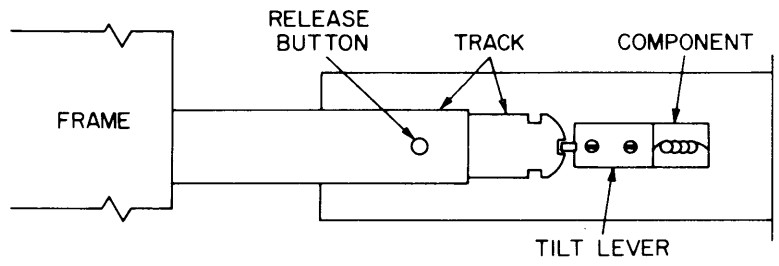
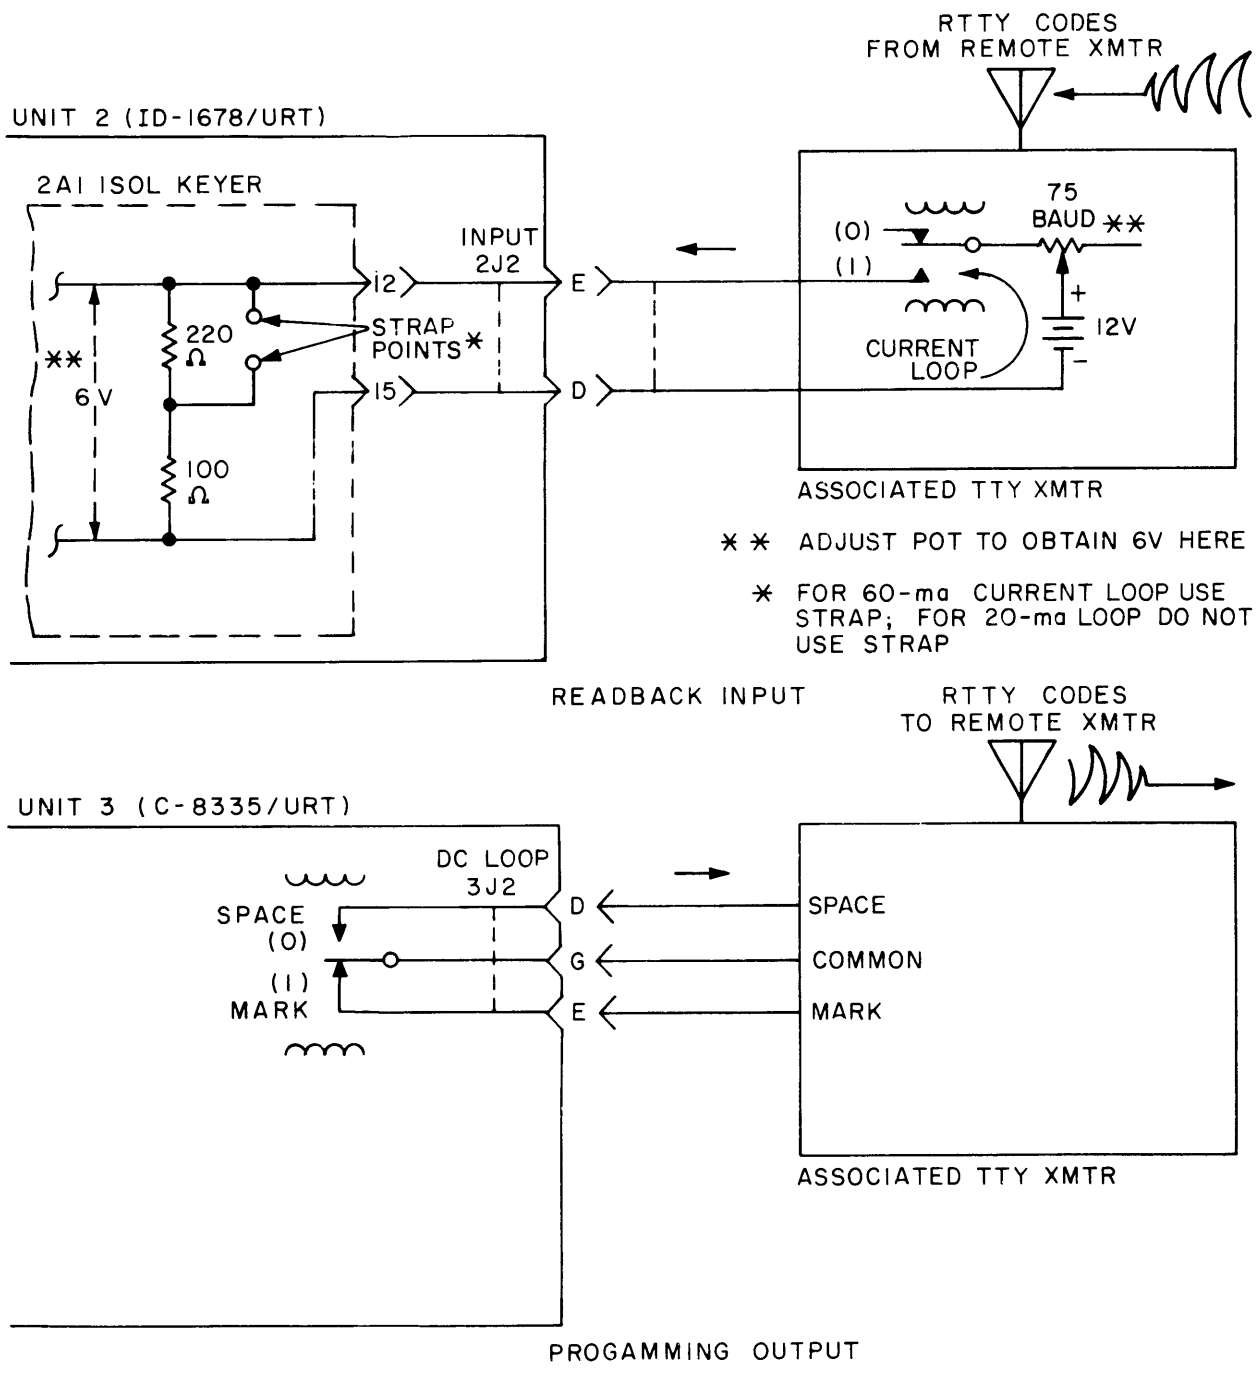

Figure 2-3. Slide Mount Details
Figure 2-4. External Wiring Connections
a. ASSEMBLY OF CONSOLE. Install modular units and blank panels into the console as shown in figure 1-1. Connect modular unit power supply inputs to ac power strip console as shown in figure 5-1. Modular units ID-1678/URT and C-8335/URT are slide-mounted on tilt-lock drawer slides. The external part of the slide mount arrives pre-installed in the cabinet; the internal part arrives pre-installed on the modular unit. To install a unit, refer to figure 2-3 and proceed as follows:
- (1) Pull the center section of the cabinet-mounted (external) portion of the slide-mount out until it locks in an extended position.
- (2) Position the unit-mounted (internal) portion of the slide mount in the tracks of the external portion and ease the modular unit into the cabinet until the release buttons engage the holes in the track.
- (3) Depress the release buttons and slide the modular unit completely into the rack.
- (4) Secure the modular unit front panel to the rack flange with machine screws and fiber washers supplied in shipment.
b. EXTERNAL WIRING CONNECTIONS. All system wiring shall be connected at the rear panels of Channel/Frequency Indicator ID-1678/URT and Electronic Command Signal Programmer C-8335/URT (figure 5-1). Figure 2-4 contains wire-run information for constructing individual cables to each connector. Since the readback input requirements may vary due to the quantity and types of the remote transmitters, an analysis should be made as to necessary connections before proceeding to make up the cables. This analysis may be made from information contained in the following sub-paragraphs.
(1) Programming Output. The console is capable of controlling up to thirty remote single transmitters or fifteen remote dual-diversity transmitters. This remote equipment may be arranged as one single transmitter, or an array of up to thirty single transmitters; one dual-diversity transmitter, or an array of up to fifteen dual-diversity transmitters. In all cases, one single teletype code channel output (DC LOOP, J2) from the C-8335/URT controls all of the transmitters in an arrangement. Single and dual-diversity transmitters may be combined in an arrangement as long as transmitter-halves do not exceed thirty when totaled up.
(2) Readback Input. Cable connections to the ID-1678/URT may vary in accordance with the particular transmitters used. ID-1678/URT contains a single input (INPUT J2) on its rear panel. Some varieties of transmitters contain a readback selector in which a readback is triggered by the EQUIPMENT SELECTION code pushbuttons on the C-8335/URT keyboard; in this case only one teletype channel is required for the readback input from one transmitter block at the console. For transmitters not containing a readback selector, readback issues from each transmitter via a separate teletype channel and a selector switch may be required at INPUT J2.
(3) Variations in Teletype Linkage Equipment.
Wire the programming output cable and the readback input cable in accordance with wire-run information in figure 2-4.